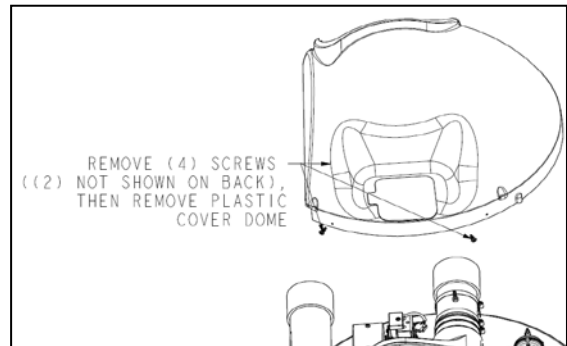

Figure 1
2. Remove the plastic cover dome from the unit using a Phillips head screwdriver. (Figure 1)